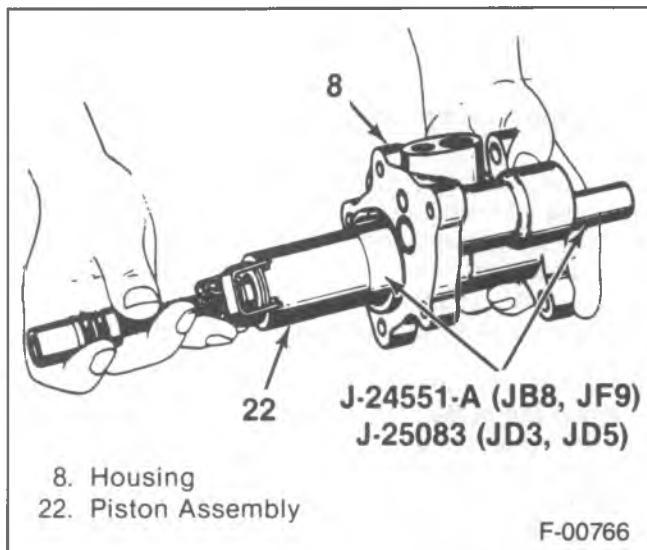

Figure 7—Installing the Piston Assembly
1. Seal (10) and return line fitting (12).
2. Accumulator valve (11).
3. Spool valve (13).
4. Seal (23) and piston assembly (22) by using J-24551-A or J-25083 (figure 7).
5. Seal (14) onto the piston assembly (22).
6. Seal (15) onto the housing (8).
7. Cover (16).
8. Bolts (9).